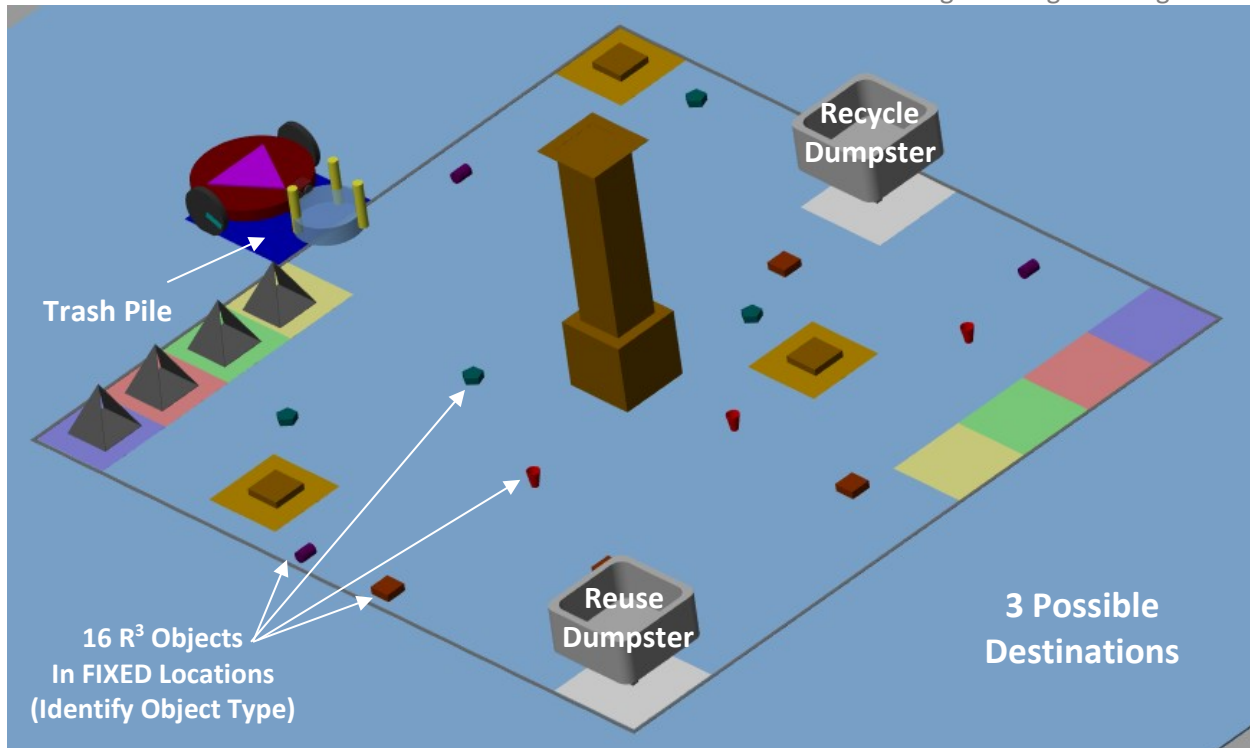

Figure 2.6. Phase 3 Field Layout and Objectives
- Figure 2.6 represents the field layout expected during Phase 3.
- Three (3) light poles are preloaded onto the virtual robot at the beginning of the phase. These light poles play no role in this Phase.